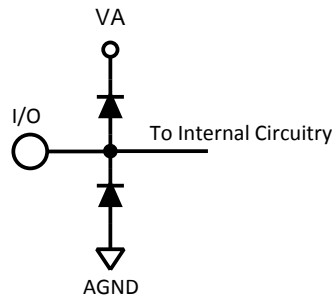

Figure 4.
(1) The analog inputs are protected as shown in Figure 4. Input voltage magnitudes beyond the supply rails will not damage the device, provided the current is limited per Note 4 under the Absolute Maximum Ratings Table. However, input errors will be generated if the input goes above V_A and below AGND.
(2) Test limits are specified to AOQL (Average Outgoing Quality Level).
(3) Typical figures are at $T_A = 25^\circ C$, and represent most likely parametric norms at the time of product characterization. The typical specifications are not ensured.